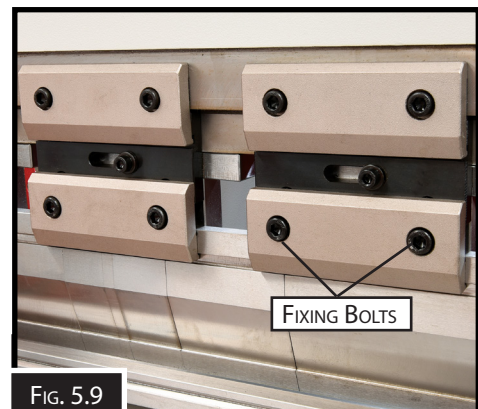

FIG. 5.9
1. Loosen the fixing bolts of the punch clamping plate or plates. (Fig.5.9) The punch drops onto the V-groove of the die. (Fig.5.10)
1. Slide the punch into the V-groove of the die as shown. (Fig.5.9)